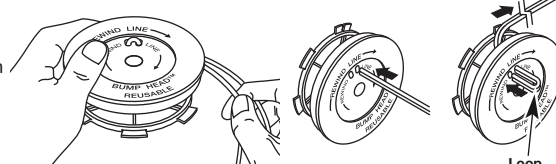

Fig. 14
- Check the indexing teeth on the inner reel and outer spool for wear (Fig. 14). If necessary, remove burrs or replace the reel and spool.